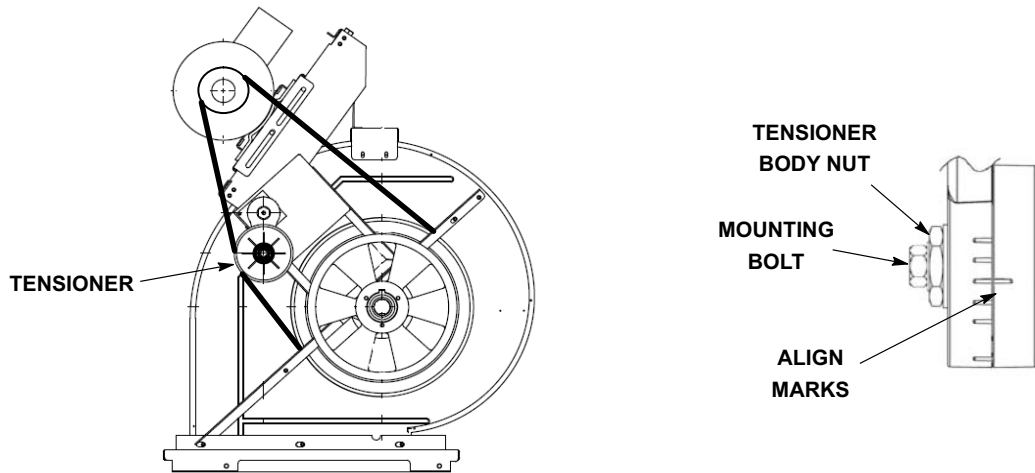

FIGURE 19
- 1- Loosen the bolt in the center of the tensioner. See figure 19.